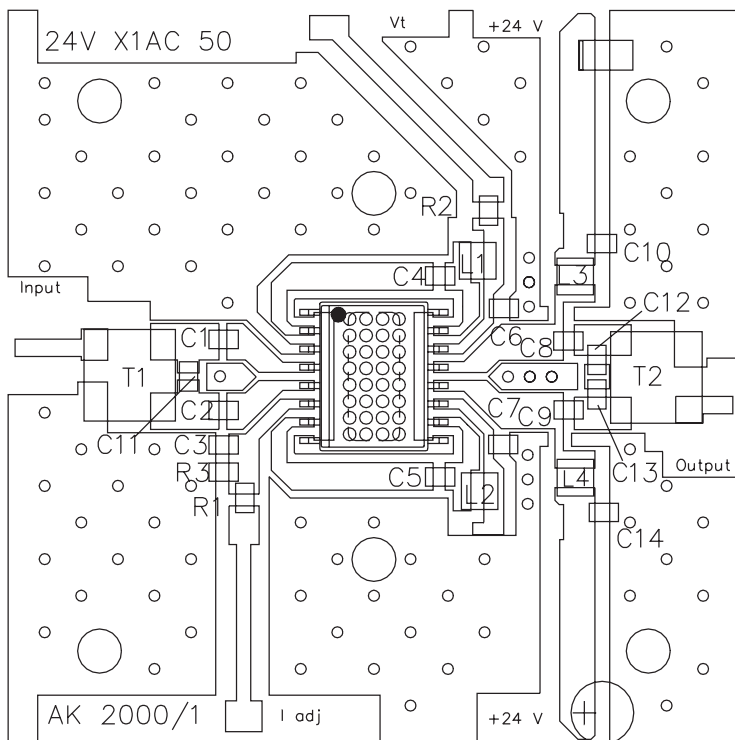

Figure 13: Evaluation Board Layout
- (1) Measured with baluns on the input and output of the device.
- (2) Parts measured with 77 channels, +56 dBmV power, 13.5 dB tilt at 870 MHz.
- (3) Parts measured with 110 channels, +52 dBmV power, 13.5 dB tilt at 870 MHz.
- (4) 79 analog channels plus QAM, +55 dBmV, 15.6 dB tilt at 1 GHz.
- (5) 112 analog channels plus QAM, +51 dBmV, 15.6 dB tilt at 1 GHz.
- (6) QAM is set 6 dB below analog carrier.
7. All specifications as measured on Evaluation Board (see Figures 13 & 14).